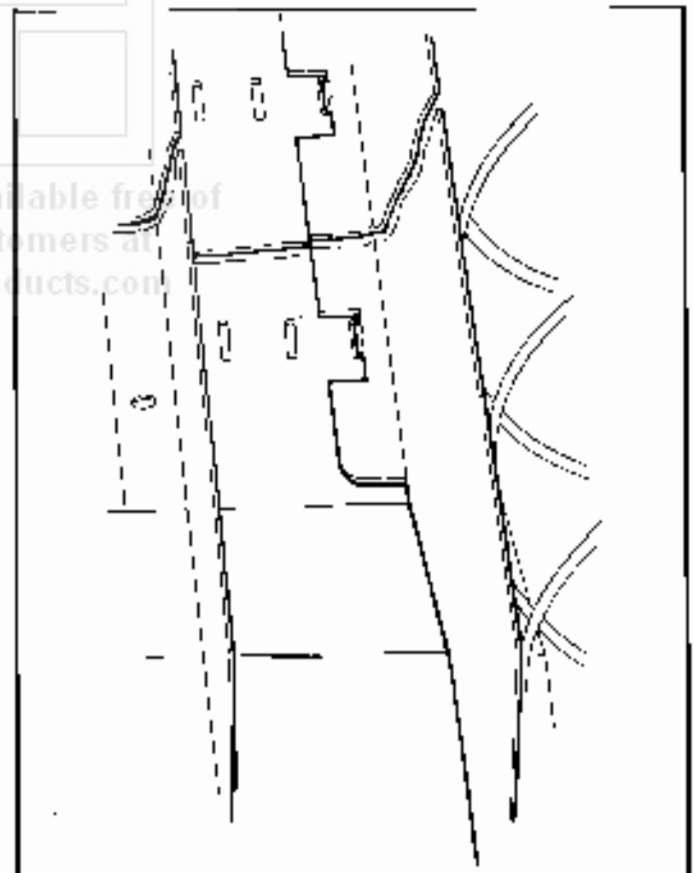

Figure 4. ALIGNMENT OF YOVLABELL PRODUCT SPACERS.
- PRODUCT SPACERS - 4 SELECTION SHELF:** A product spacer is used to reduce the width of the product area and should be used on any 4-selection snack shelf where the product width is $4\frac{1}{2}$ " or less. Spacers should fit within $\frac{1}{8}$ " of the product, but should not fit tight against the product. There are three positions in each snack space where these spacers can be placed. To install the spacer, align the lock ears (on the lower edge of the spacer) with one of the three sets of slots (one front and one rear). (See Figure 4). Push the spacer to the rear to allow the ears to enter the slots, then allow the spacer to move forward. Be sure the ears are in the same set of slots, front and rear. (See Figure 4). Continue loading all spirals adjust with spacers where needed in the top shell. Rotate the top shell to the vend position and following this procedure load the remainder of the large spiral shelves. The shelf divider separating the right (lock side) column from the next column is movable to allow vending of products wider than $5\frac{1}{2}$ " in the second column. If this is used the right column must be used to vend a narrower product.